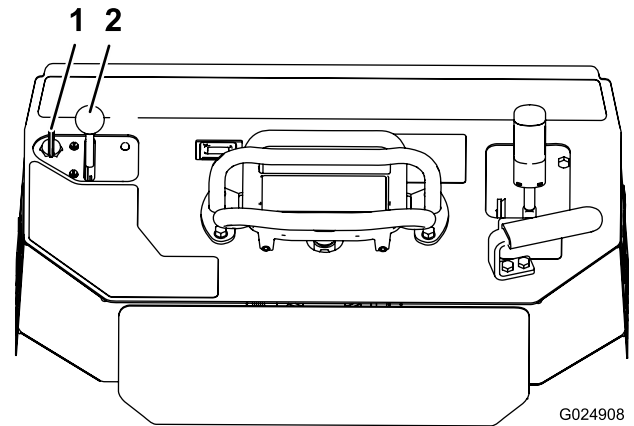

Figure 19
1. Move the throttle lever midway between the Slow and Fast positions (Figure 19).
2. Turn the key to the On position (Figure 19). When the engine starts, release the key.
3. Move the throttle lever to the desired setting (Figure 19).
2. Move the throttle lever to the Slow position (Figure 19).
3. Turn the key to the Off position (Figure 19).